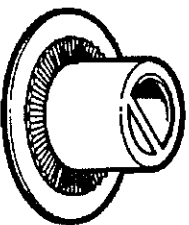

Figure 4. Fixed-Volume Cap
2. Choose the fixed-volume cap (refer to Figure 4).